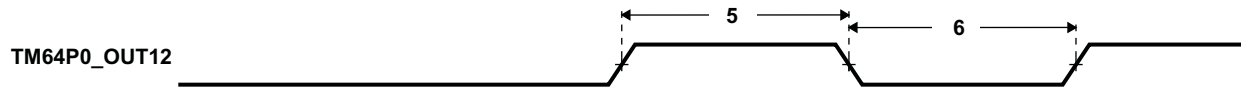

**Figure 6-80. Timer Timing**
**Table 6-131. Timing Requirements for Timer Input(1) (2) (see Figure 6-80)**